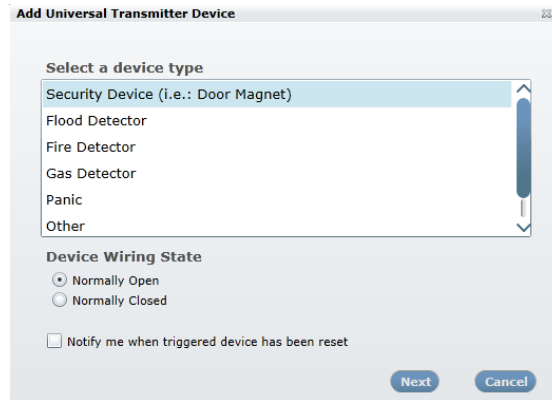

Figure 144: Definition of Function of the Legacy Wired Device
6. A window defining the function performed by the legacy wired device opens (see Figure 144 below) where you need to: